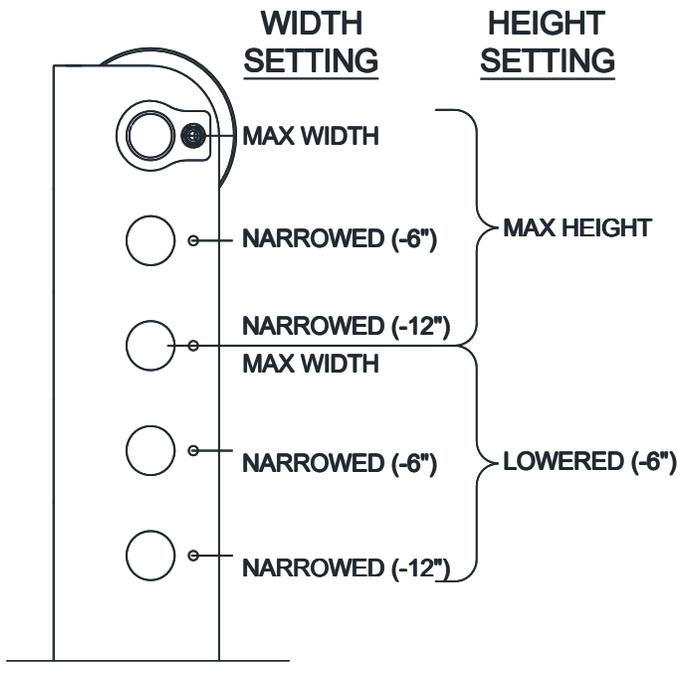

Fig. 3 –Sheave Position in Lower Bracket
- Determine the sheave location on the lower bracket based on the overall height and width of the lift at its chosen configuration. Use the General Specifications table from **page 2** and **Fig. 3** below.